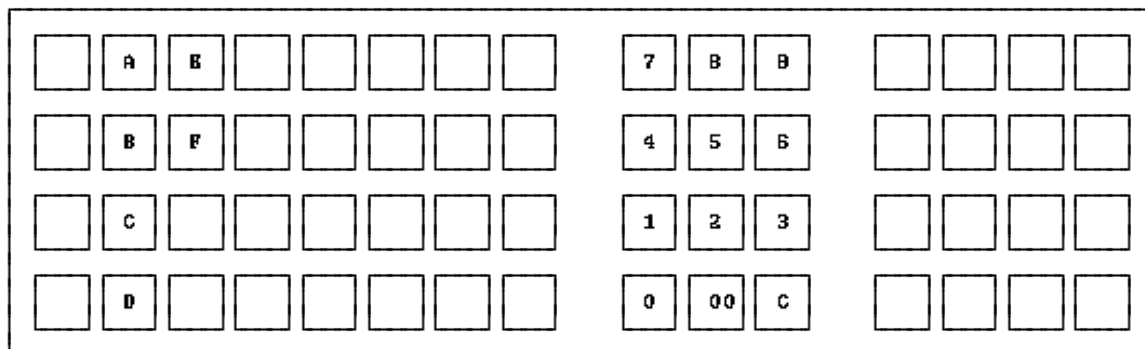

Fig. 1
A.2.3 In this mode, several PLU keys are converted as below Fig. 1.